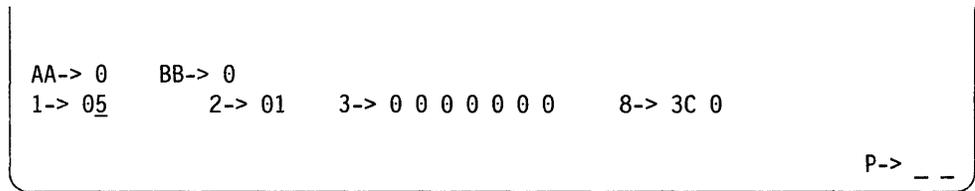

Figure 3-11. Cursor in Field 1 of Operator Input Fields
- a. Press the Cursor Right or Cursor Left key to move the cursor under the second position of Field 1 (see Figure 3-11 on page 3-13).